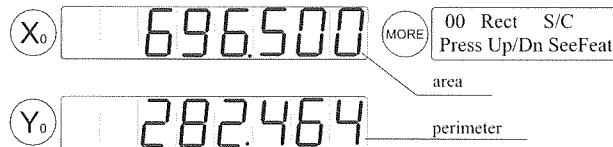

Figure1-30 Information3 of Rectangle Feature
- 3) Press , and the information is displayed as in figure1-30.